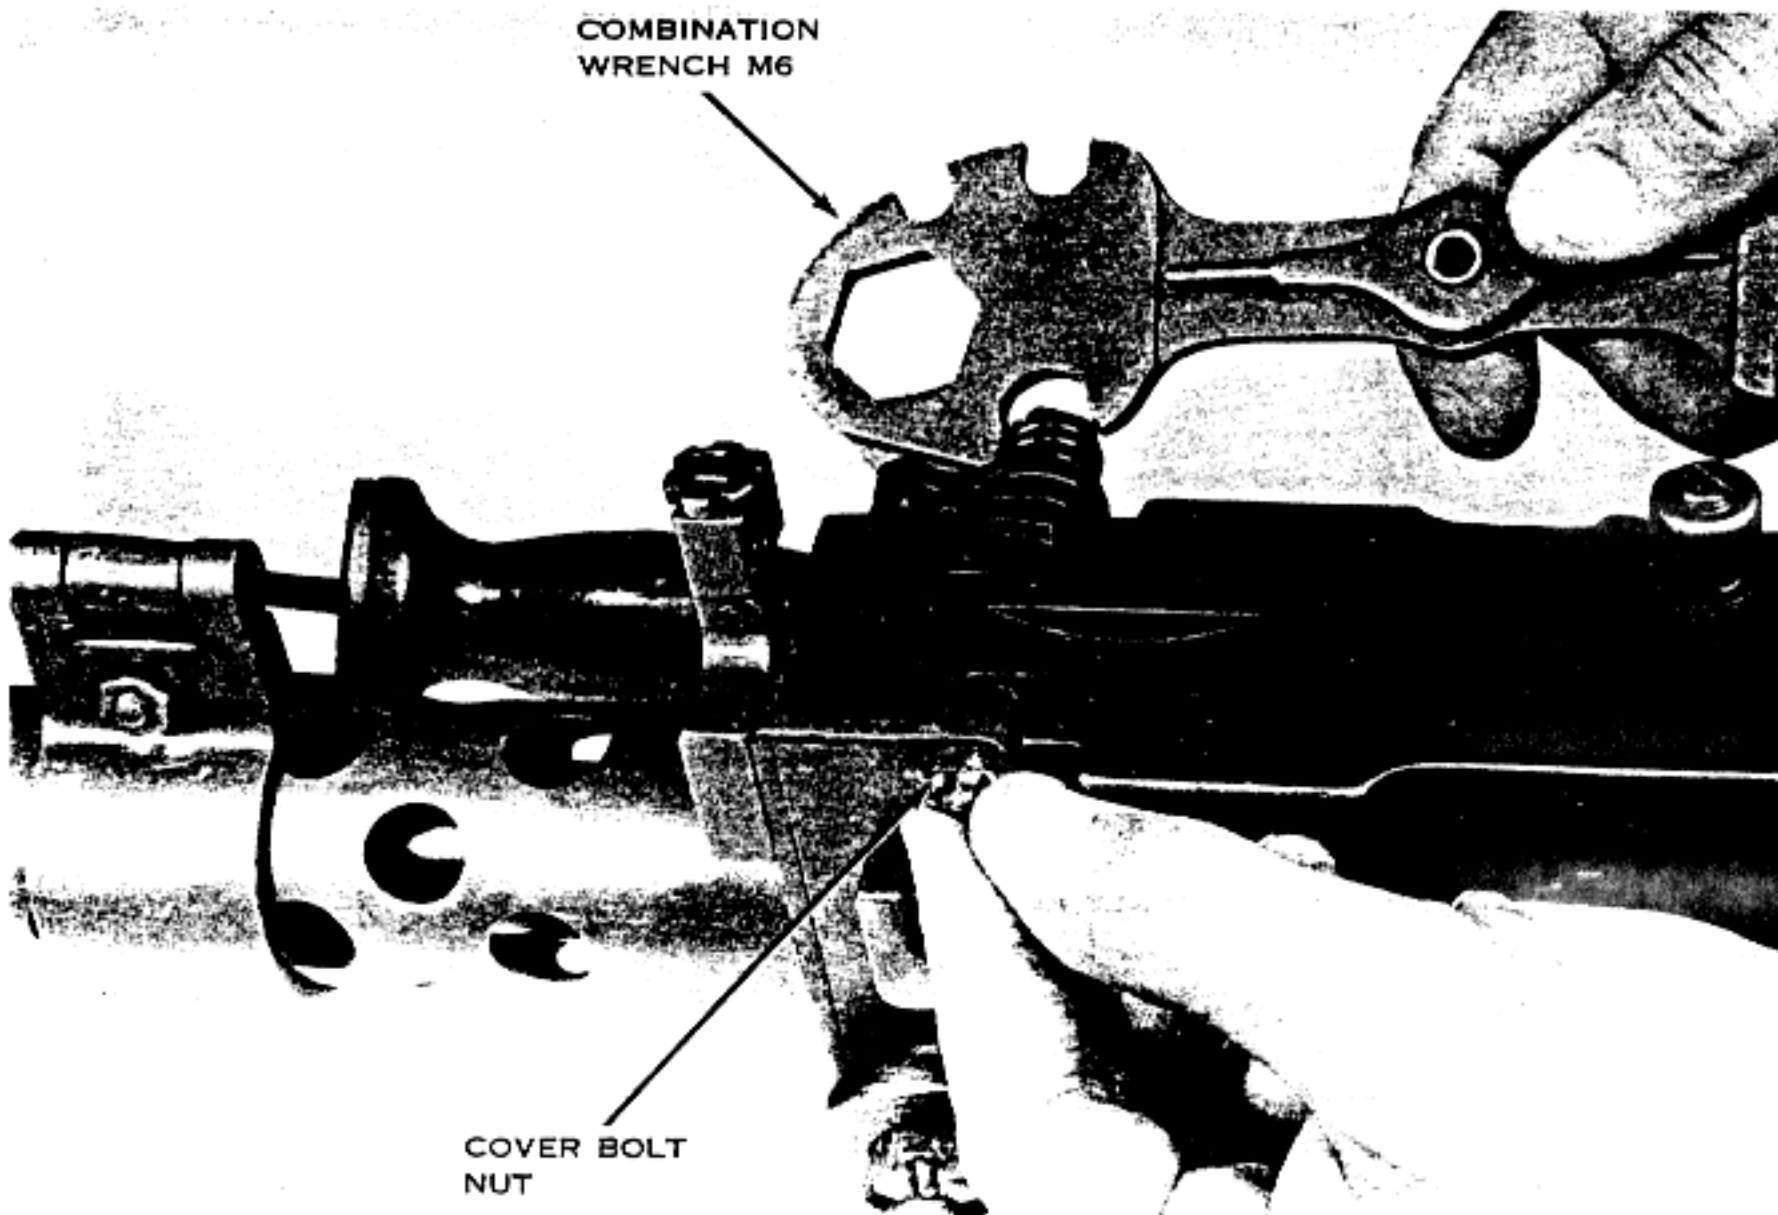

Figure 22. Removing cover bolt nut from cover bolt.
- (1) Remove the cotter pin from the castle nut (cover bolt nut). Place the screwdriver end of the combination wrench in the slit in the cover bolt to prevent the bolt from turning and unscrew the cover bolt nut (fig. 22).